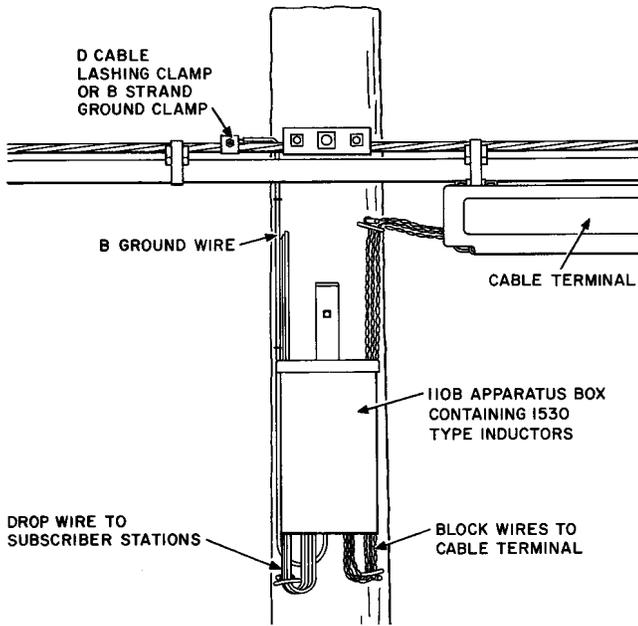
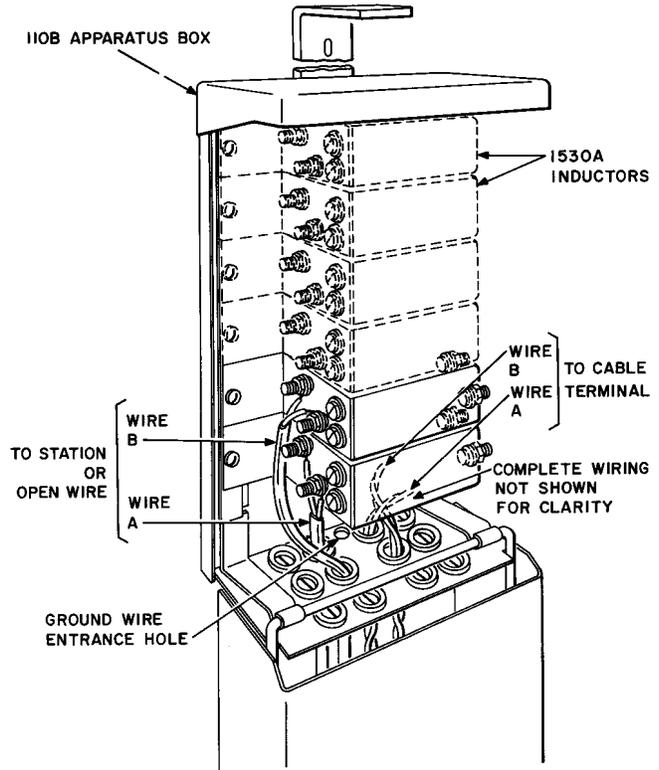

Fig. 12—Wiring Inductors at Strand Mounted Terminal
Fig. 14—Inductor Wiring Detail with Drop or Bridle Wire
(2) Place only one drop or block wire in each grommeted entrance hole.
(3) Cut the drop and block wires to proper length for terminating. Skin and clean the ends and place between washers on the binding posts of the inductor.
(4) The wiring of inductors and distribution terminals is indicated in Fig. 12 and 13. It is important that the drop and block wires are separated as shown in Fig. 14 due to transmission requirements.